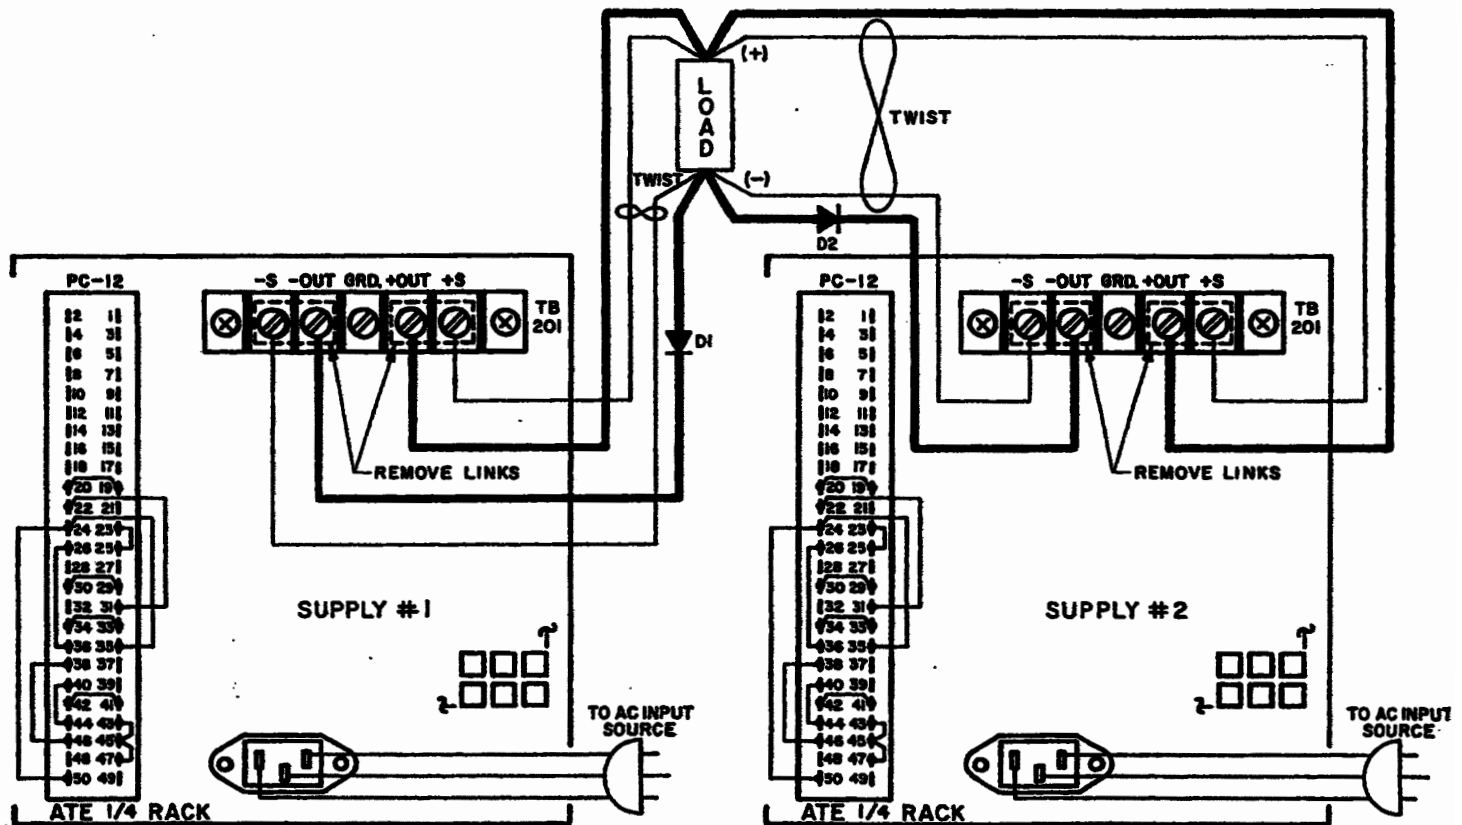

FIG. 3-28 REDUNDANT PARALLEL CONNECTION WITH ATE POWER SUPPLIES.
3-112 Two ATE Power Supplies can be connected in parallel to a load in such a way that if one of the power supplies fails or is interrupted in any other manner, the other will continue to supply uninterrupted load current. The two power supplies are isolated from each other by means of external diodes (D1, D2 in FIG. 3-28) which must be rated for the maximum load voltage and current of the ATE units used.
- 2) Make all load and sensing connections as shown in FIG. 3-28.